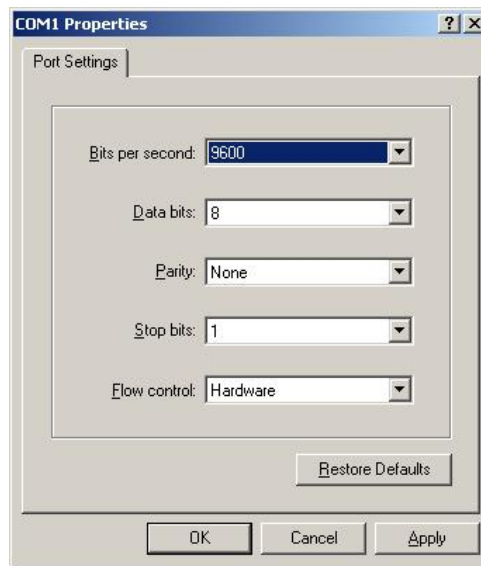

Figure 2-59: HyperTerminal COM Port Settings
6. Under Port Settings, select the values for each setting as shown in Figure 2-59.